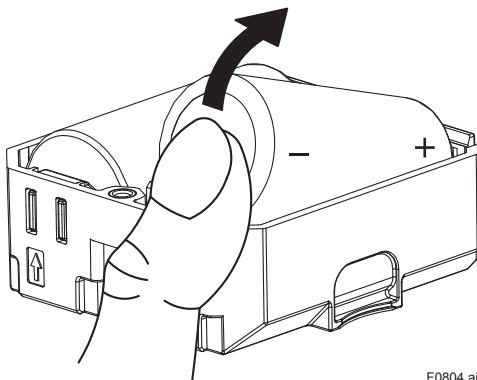

Figure 8.3 Remove Batteries
2. Remove old batteries. Remove the battery by pushing up the negative side of the battery as shown in Figure 8.3.